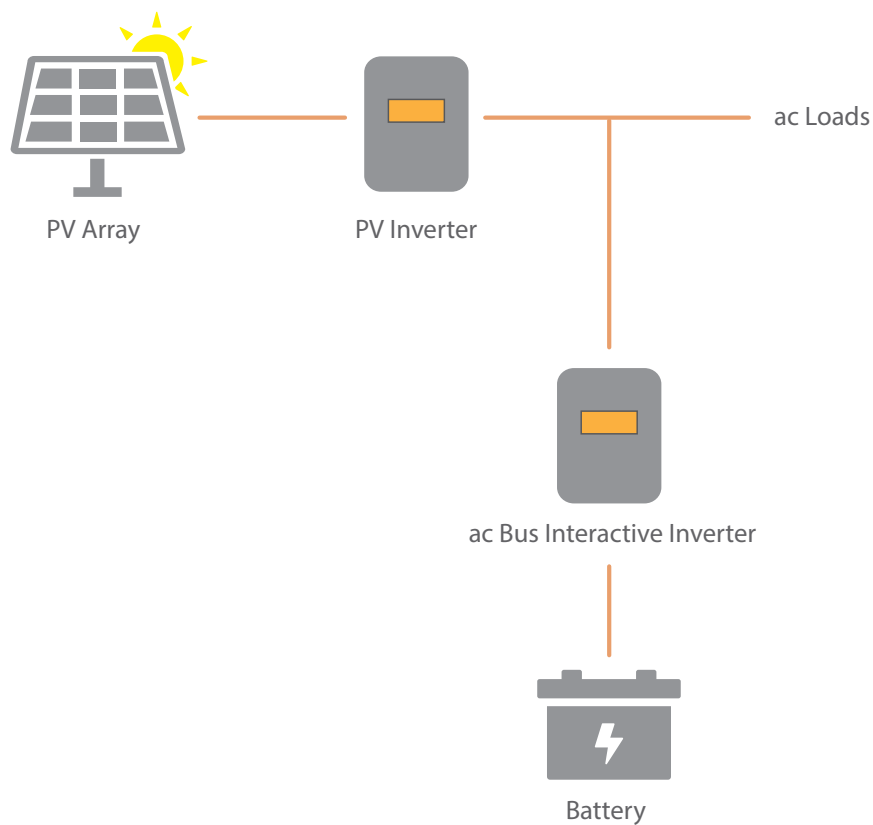

Figure 3: ac bus system
- ac bus systems (refer to Figure 3).